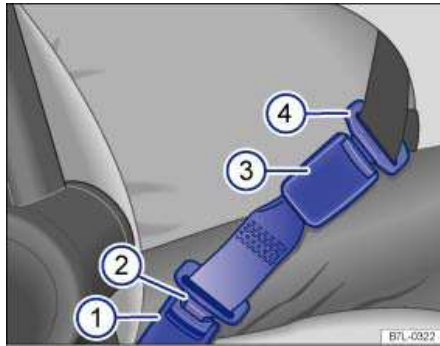

Fig. 54 A safety belt extender properly attached to the factory-installed safety belt.
Key to fig. 54:
- Insert the buckle tongue on the safety belt extender ⇒ fig. 54 \(2\) into the vehicle belt buckle for the seat where the safety belt extender is being used \(1\).